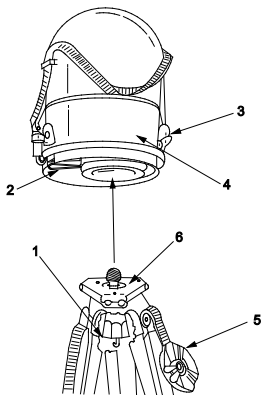
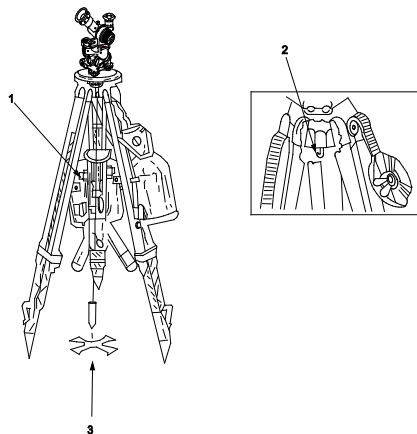

Figure 5. Aiming Circle and M24 Tripod Installation.
Figure 7. Aiming Circle with Plumb Bob Extended.
2. Center screw assembly (Figure 5, Item 1) as shown below.
3. Open base plate cover (Figure 5, Item 2) and place Aiming Circle on tripod head (Figure 5, Item 6).
4. Turn screw assembly (Figure 5, Item 1) into threaded hole on Aiming Circle until screw is snug.
5. Release catch assemblies (Figure 5, Item 3) and remove cover (Figure 5, Item 4) from Aiming Circle. Hang Aiming Circle cover on the tripod cover assembly (Figure 5, item 5).
1. Remove plumb bob assembly (Figure 7, Item 1) from canvas cover and hang the string on tripod plumb bob hook (Figure 7, Item 2).
2. Adjust length of string until plumb bob just misses touching the orienting station (Figure 7, item 3).
5. Position the Aiming Circle accurately over the orienting station (Figure 7, Item 3). Loosen screw assembly (Figure 7, Item 2) and carefully slide Aiming Circle on the tripod head (Figure 5, Item 6) until the plumb bob is pointing directly over the orienting station. After completion of placing the Aiming Circle directly over the orienting station, tighten screw assembly (Figure 7, Item 2).